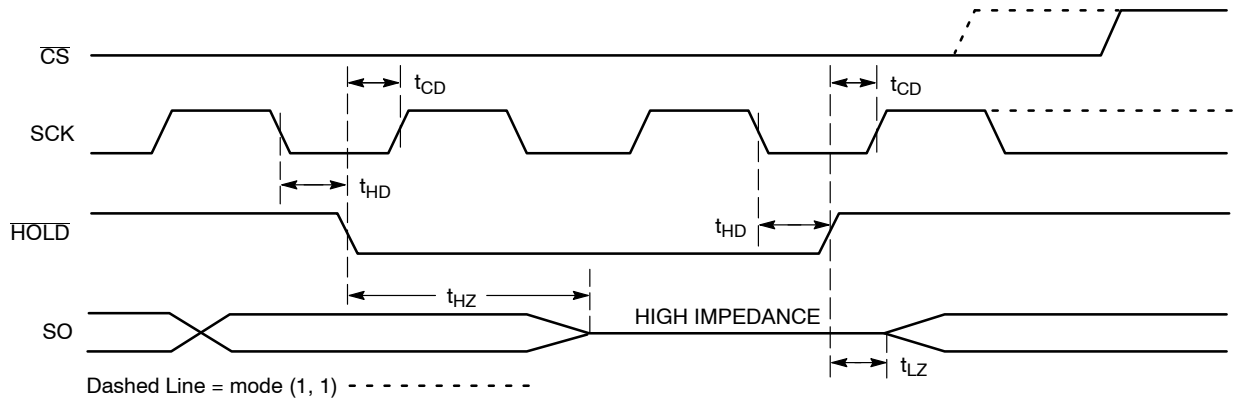

Figure 11.  $\overline{\text{HOLD}}$  Timing
The  $\overline{\text{HOLD}}$  input can be used to pause communication between host and CAT25640. To pause,  $\overline{\text{HOLD}}$  must be taken low while SCK is low (Figure 11). During the hold condition the device must remain selected ( $\overline{\text{CS}}$  low). During the pause, the data output pin (SO) is tri-stated (high impedance) and SI transitions are ignored. To resume communication,  $\overline{\text{HOLD}}$  must be taken high while SCK is low.